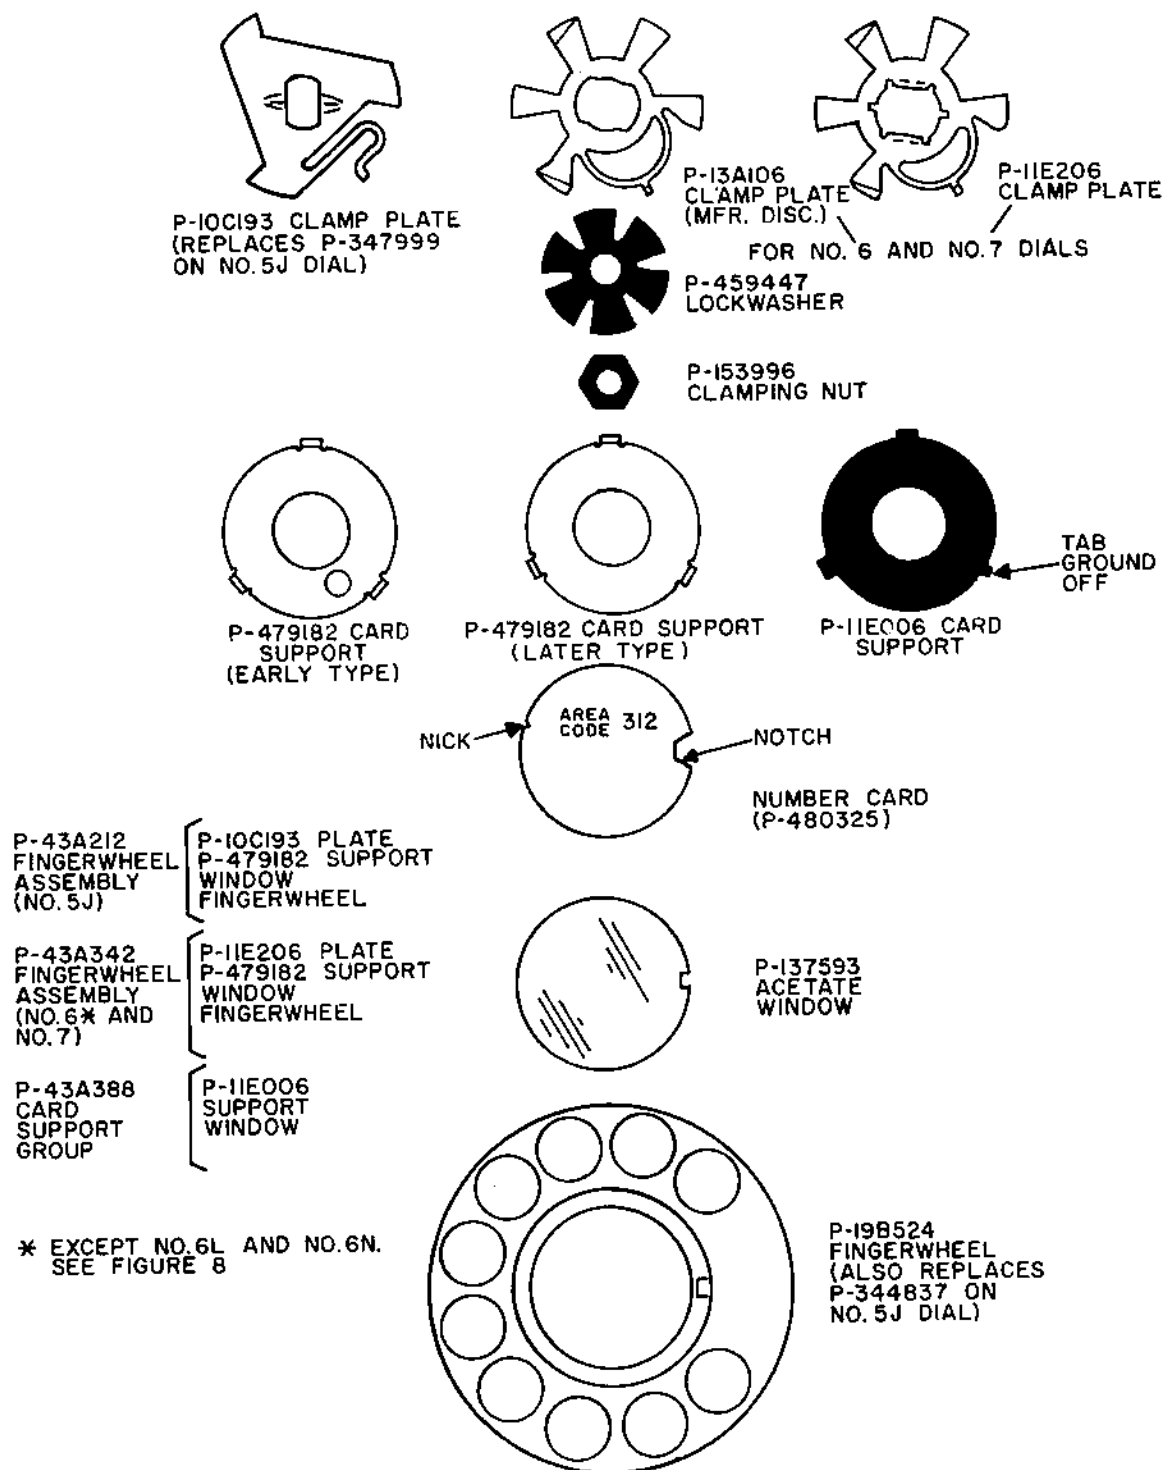

Figure 7. WECo Acrylic or Polycarbonate Fingerwheel Assemblies with Separate Window.
3.07 The WECO P-19B524 fingerwheel, molded from clear acrylic or polycarbonate, has no metal escutcheon. A raised portion surrounding an approximate 1-5/16 inch diameter center hole serves to retain a P-137593 acetate window, which is inserted from the rear. Including the window, six additional parts are required to mount the fingerwheel and provide identification. Two different clamp plates are available: P-10C193 is arranged to mount on the hub of a Number 5 dial, and P-11E206 on the hub of a Number 6 or 7 dial (Figure 7).